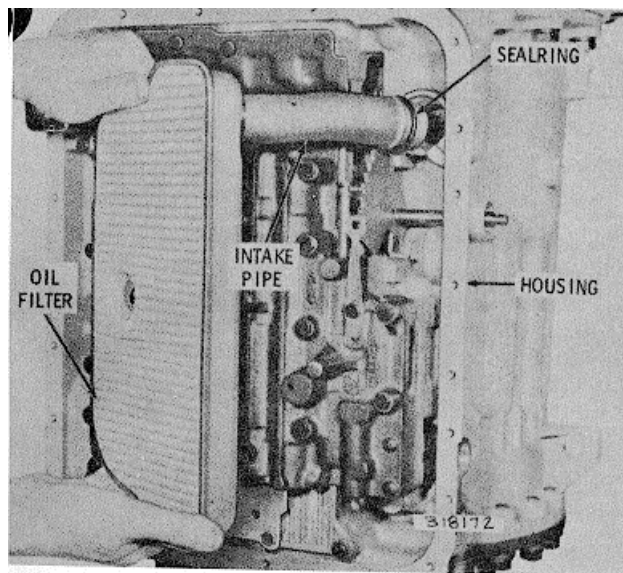

Fig. 7-50 Installing oil filter
- (1) Install the sealring onto the oil intake pipe (fig. 7-50). Lubricate the sealring with oil-soluble grease.
- (2) Install the oil filter making sure the intake pipe fits snugly into the housing (fig. 7-50). Do not twist the oil filter during installation push straight inward.